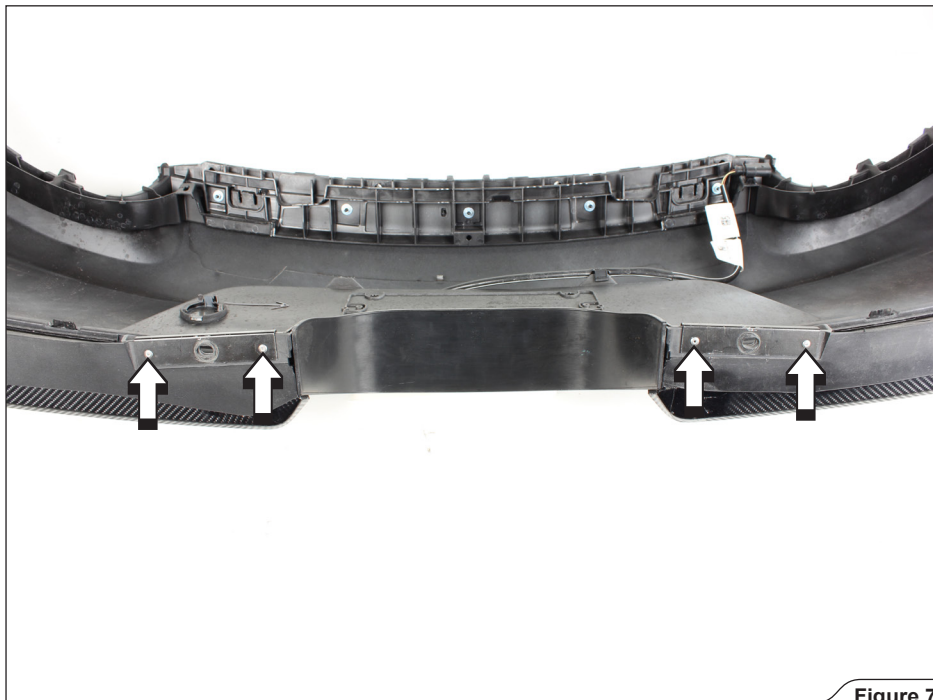

Figure 7
6. Drill out the marked rivets and remove the reinforcements off the bumper (Figure 7).